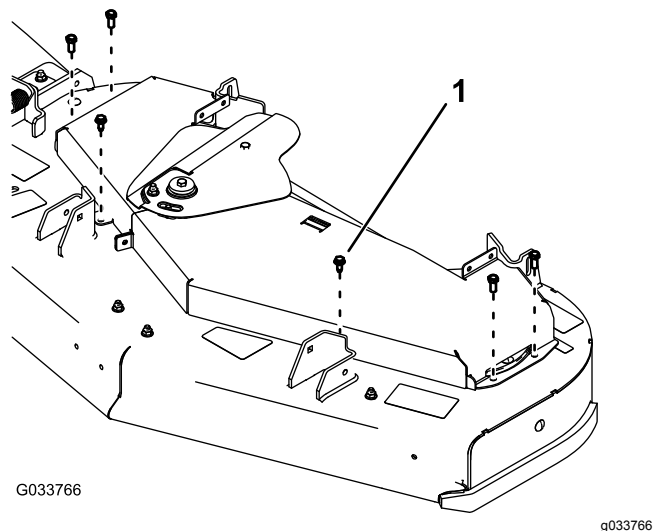

Figure 65
5. Remove the 6 bolts connecting the belt covers to the mower deck and slide the belt covers out from under the idler cover (Figure 65).
8. Install the belt covers using 6 bolts (Figure 65).